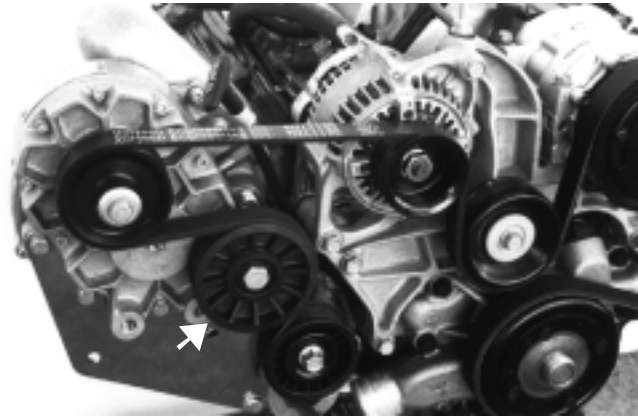

Figure: 7-a - Idler Pulley
- C. Attach the plastic idler pulley (follow the arrow in *Figure 7-a*) to the inner most threaded boss on the supercharger. Use the supplied large washer as a spacer in between the pulley and the supercharger.